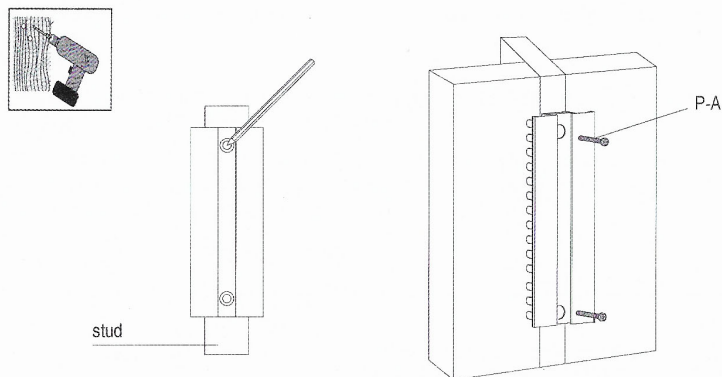

fig.1.1
- Drill four 1/8" (3mm) dia. Holes 1.2" (30mm) deep. Secure it using four screws (P-A), make sure that the wall plate is level as shown in fig.1.1.